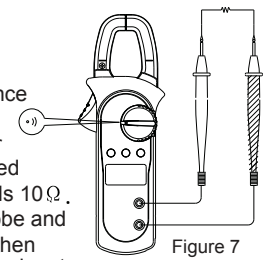

Figure 7
5. Continuity Test (V) (See Figure 7)